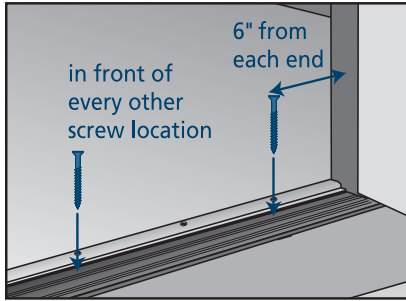

Fig. 30
- Some inswing doors require an adjustable threshold; if **adjustable threshold** (**Fig. 30**):